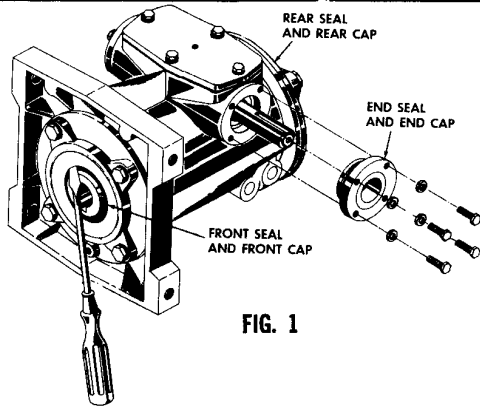

FIG. 1
2. Lay air switch assembly on flat surface. Adjust air blade at "A" (fig. 1) so that air blade lays flat and surface "B" is parallel to the flat surface.
### TO REMOVE EXISTING FRONT AND REAR SEALS from front and rear caps on Gear Reducer (Fig. 1):
### TO REMOVE EXISTING END SEAL and END CAP from Gear Reducer (Fig. 1):